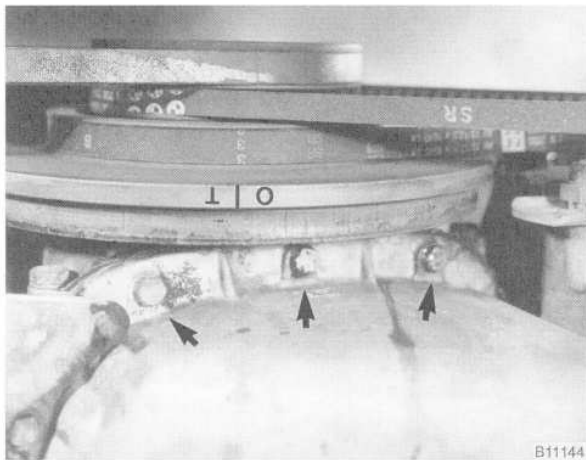

Fig. 26. Front oil pan mounting bolts (arrows) as viewed from below.
17. Working from beneath the engine, remove the oil pan mounting bolts that are threaded into the timing chain cover. See Fig. 26. Loosen the remainder of the oil pan mounting bolts. Using a sharp knife, separate the oil pan gasket from the cover.